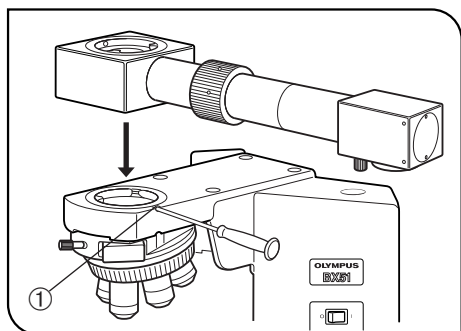
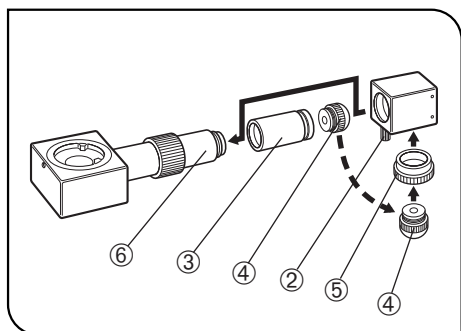

Fig. 1
Fig. 2
#### 1 When only the U-DA is mounted on the microscope frame (Fig. 1)
1. Using the Allen screwdriver provided with the microscope frame, fully loosen the clamping screw ① on the microscope frame.
3. Rotate the dovetail so the drawing attachment's mirror housing is pointing either to the left or right side when looking at the microscope from the front. (Fig. 1 shows the right-hand installation.)
4. Using the Allen screwdriver, fully tighten the clamping screw ①.
★ The lens adapter frame (⑤ in Fig. 2) should not be used as it will cause vignetting of the sketched image.
#### 2 When the U-DA is mounted above another intermediate tube (Fig. 2)